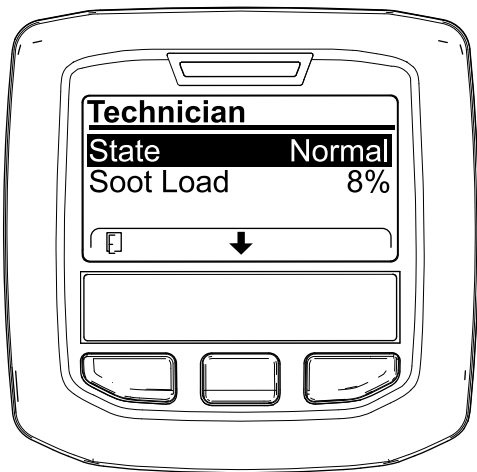

Figure 42
- Use the DPF operation table to understand the current state of DPF operation (Figure 42).